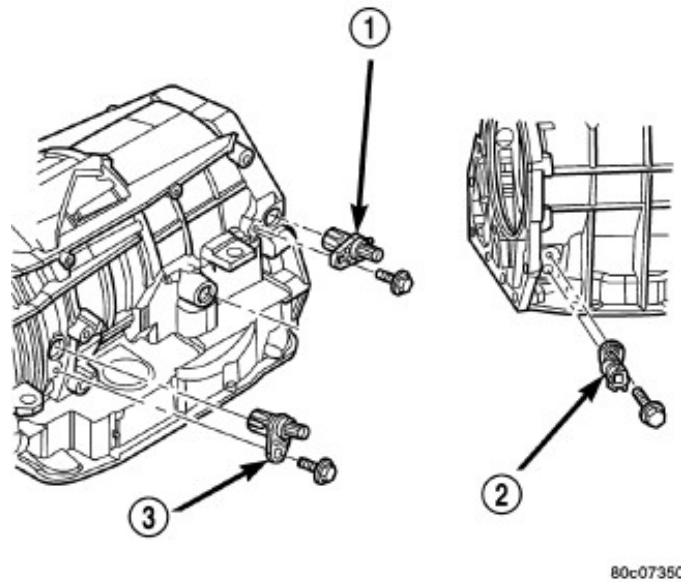

Fig. 26
52. Install the input speed sensor to the transmission case Fig. 26. Refer to the detailed service procedures available in DealerCONNECT/Service Library under: Service Info> 21 - Transmission and Transfer Case / Automatic - 68RFE / Sensor, Speed, Input / Installation.